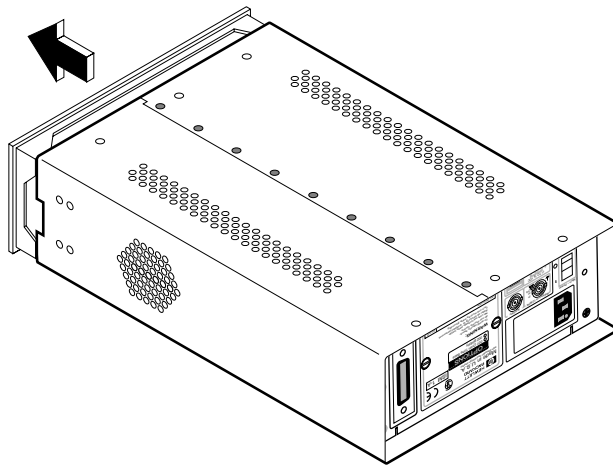

Figure 3-9. Removing the Shroud
- 6 With the Counter resting upside-down on your work surface, grip the front edge of the shroud in the cutout of the front bezel with the fingers of one hand, and push the Counter's rear panel towards the front of the shroud with your other hand. Reduce the amount of pressure you apply to the rear panel when the shroud begins to slide off the Counter, and carefully remove the shroud the rest of the way (see Figure 3-9).